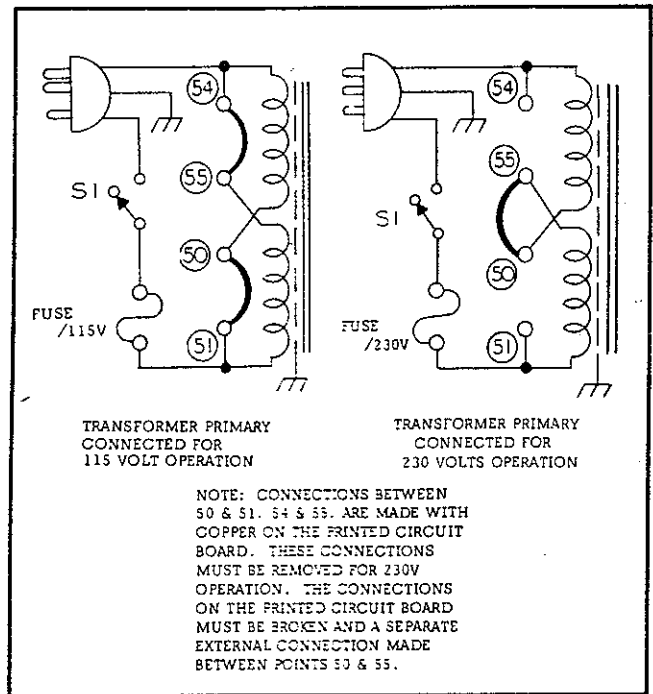

Figure 2-3. Primary Connections
#### 2-17 CONNECTIONS FOR 230 VOLT OPERATION (See Figure 2-3)
- b. Break the copper between 54 and 55 and also between 50 and 51 on the printed circuit board. These are shown in Figure 2-3, and are labeled on copper side of printed circuit board.